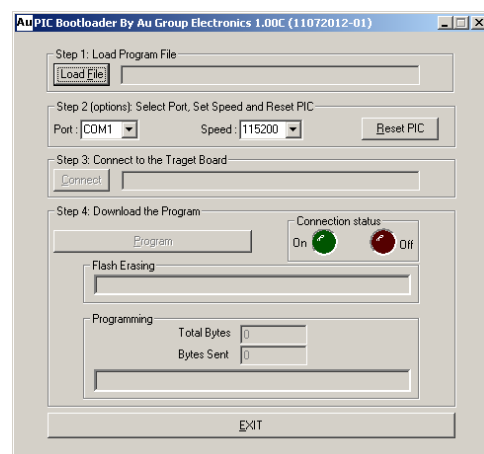

Figure C-9
9. Au PIC18 Boot-loader is launched, as shown in Figure C-9